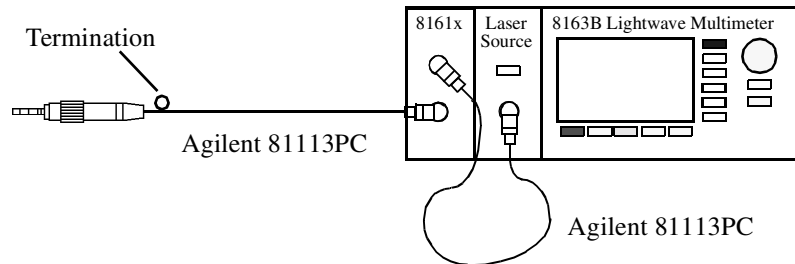

Figure 93 Termination Calibration - External source
- 1 Making sure all the connectors are clean, set up the instrument as shown in Figure 93 if you are using an External Source,